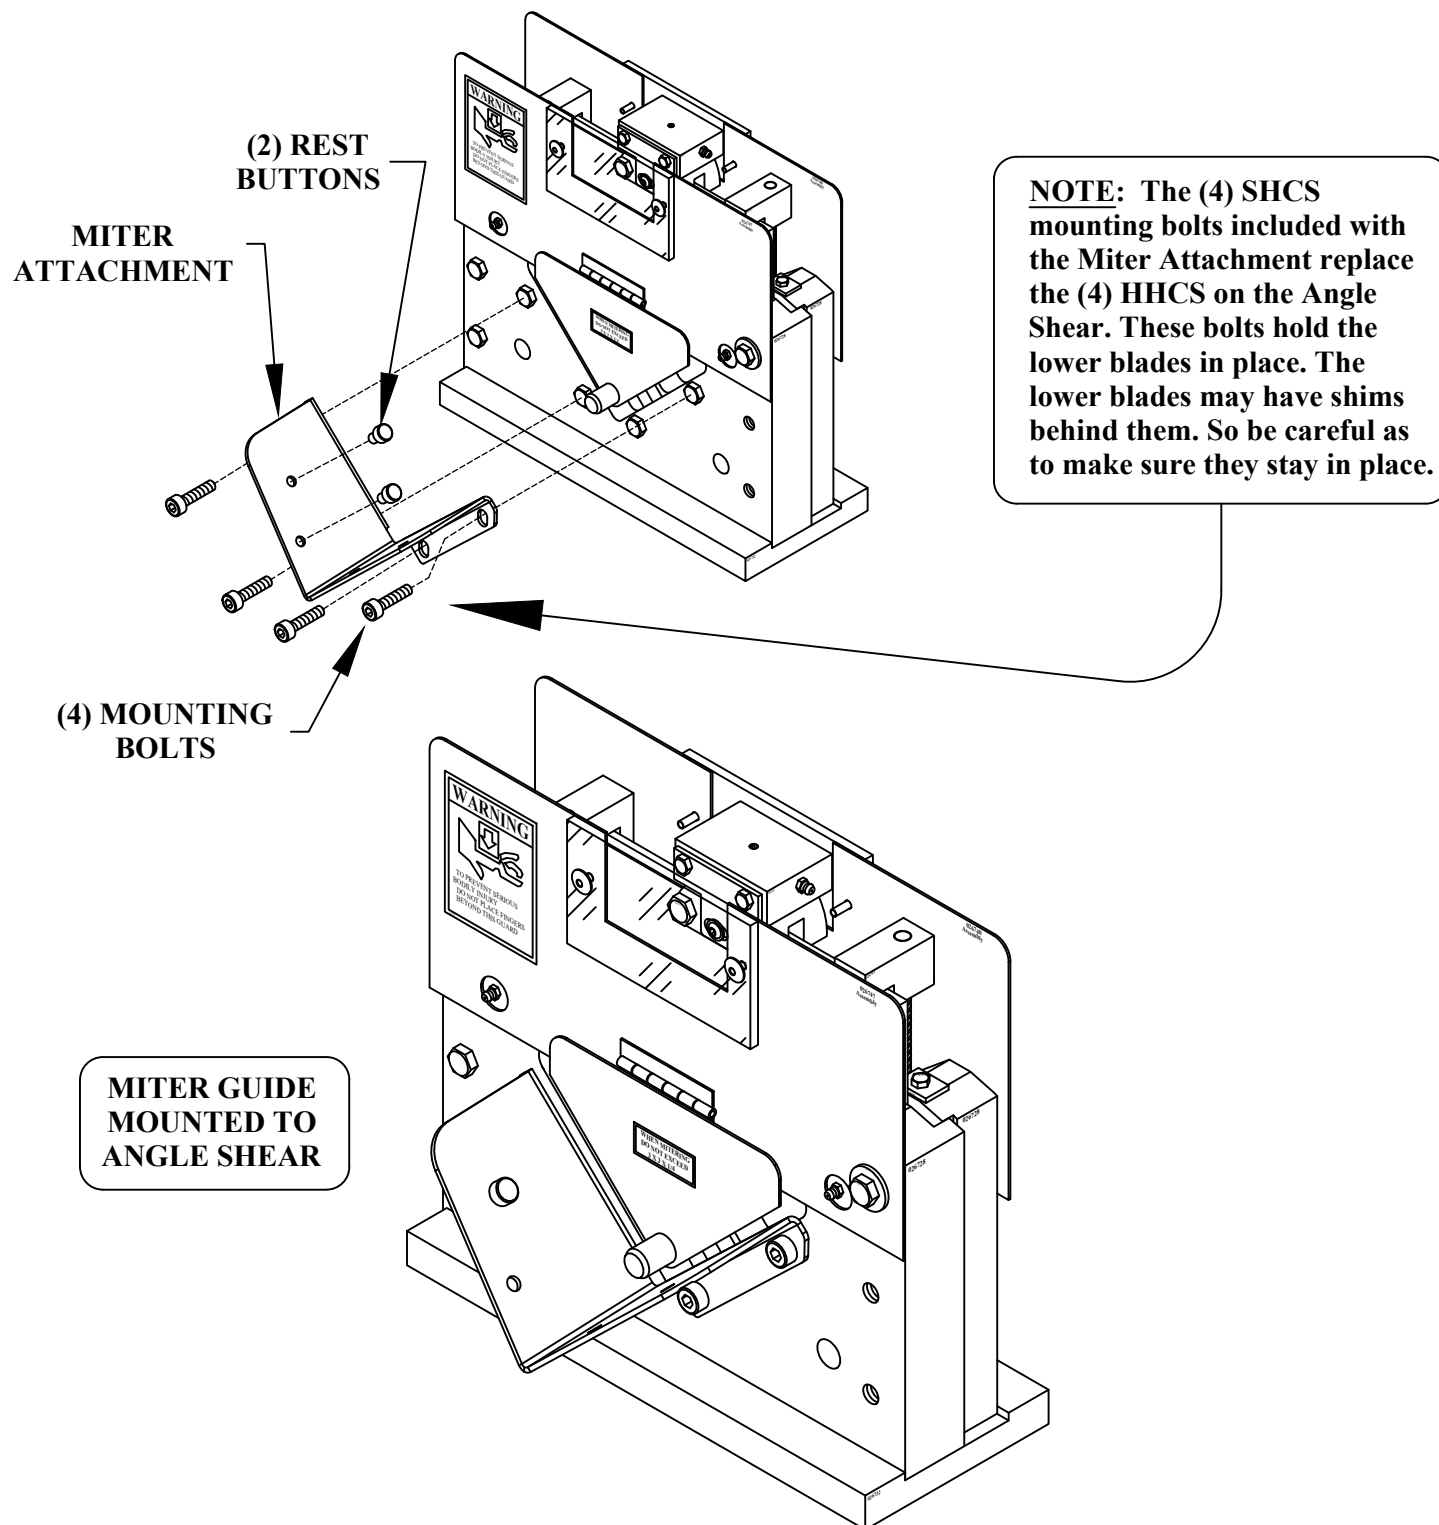

FIGURE 19A
We have P/N 026737 Miter Attachment for the 6 X 6 Angle Shear that is very helpful in making miter cuts on angle iron. It bolts on to the front of the Angle Shear with (4) bolts and has (2) rest buttons that can be used on either side to help to make quick and accurate miter cuts. This helps in making a square shape or a "picture frame" out of angle iron. See Figure 19A below.